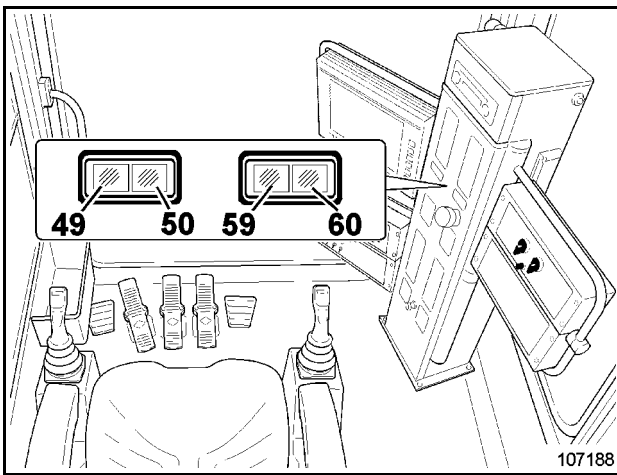

Fig. 5-22:
- (49 and 50, Fig. 5-22:) for the left engine,
- (59 and 60, Fig. 5-22:) for the right engine,